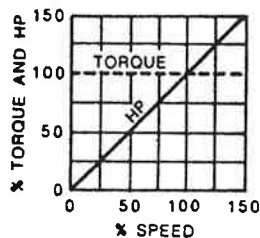

Figure 10-2.
- A. Constant Torque - About 90% of all general industrial machines (other than pumps) are constant torque systems. The machine torque requirement is independent of its speed. If the machine speed is doubled, its horsepower requirement doubles. Constant torque is illustrated in Figure 10-2.